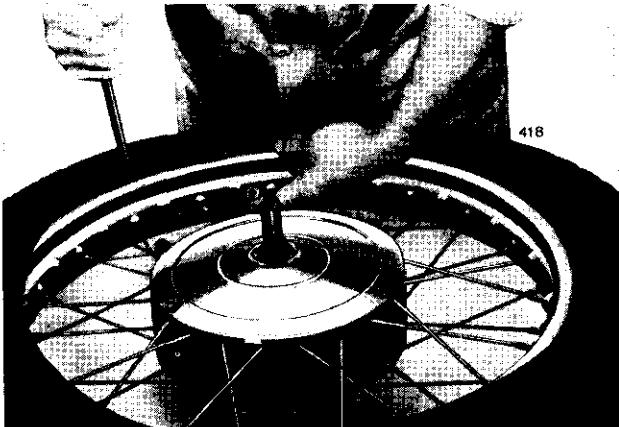

Fig. F23. Refitting the second bead with the security bolt in position
- (4) Partly inflate the inner tube and fit it into the the tyre.
- (5) Fit the second bead but keep the security bolt pressed well into the tyre, as shown in Fig. F23, and ensure that the inner tube does not become trapped at the edges.
- (6) Fit the valve stem nut and inflate the tyre.
- (7) Bounce the wheel several times at the point where the security bolt is fitted and then tighten the security bolt nut.